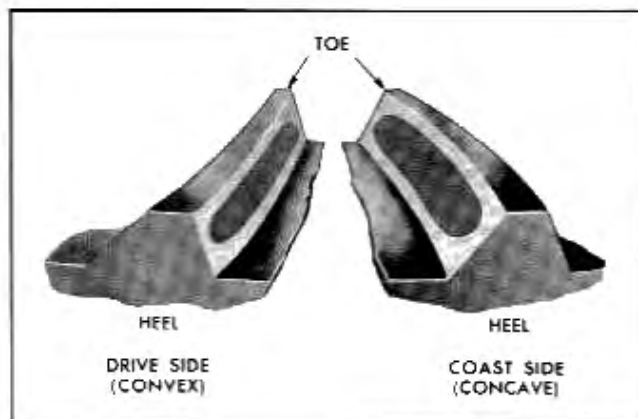

Fig. 4-16 Desired Tooth Contact Pattern
The desired tooth contact pattern (Fig. 4-16) is one which starts near toe end of tooth and extends along toward, but not to heel of tooth. The pattern on coast may be, and usually is nearer top of tooth. This pattern has a large contacting area, centered between top and bottom of tooth, and should result in minimum noise during operation. (All gear trains produce a certain amount of noise.)
7. Observe pattern on ring gear teeth and compare with Figs. 4-16, -18, -19, -20, and -22.
NOTE: In many cases the tooth contact pattern may not look exactly like those illustrated in Figs. 4-16, -18, -19, -20, and -22. In such case, try adjusting backlash to several different values, from minimum to maximum, testing tooth contact after each adjustment. By this means a pattern should be found which will look similar to one of those illustrated in the above figures. Correction can then be made by changing backlash or pinion position as may be required.